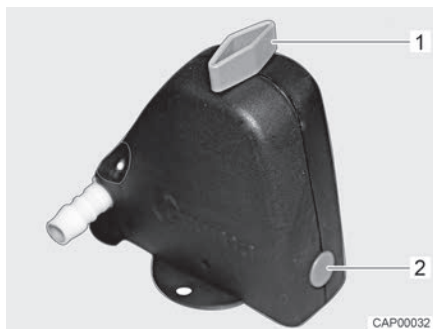
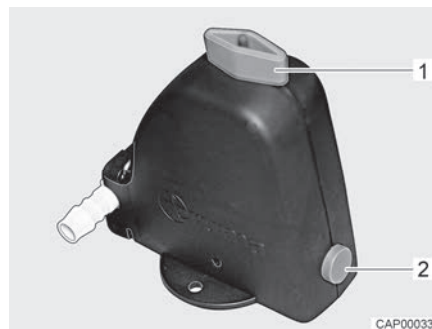

Fig. 143 Safety/drainage valve closed
Fig. 144 Safety/drainage valve open
- Open the safety/drainage valve (Fig. 143). To do this, turn the knob (Fig. 143,1) parallel to the safety/drainage valve. The push button (Fig. 143,2) jumps out. The open safety/drainage valve is shown in Fig. 144.